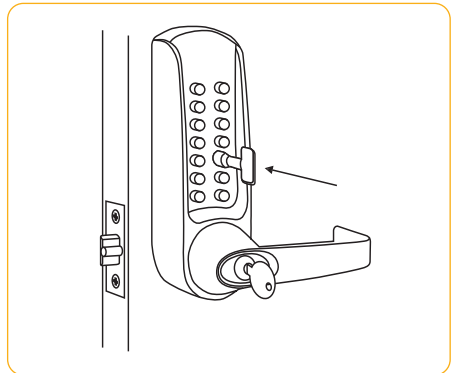

Fig 2
5. To select a button as a **code button**, push code tool over button. Press in button with tool approx 2mm ($\frac{3}{32}$ ") and turn **clockwise 180°**. Fig 2.